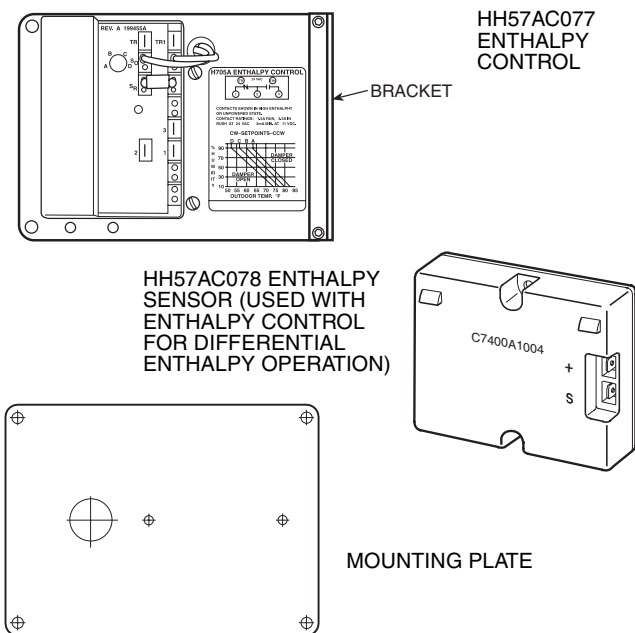

Fig. 22 — Differential Enthalpy Control, Sensor and Mounting Plate (33AMKITENT006)
- b. Connect the BRN wire to the 24 vac GND terminal (TR) on enthalpy sensor and to pin 4 on 12-pin harness.
6. Connect the RED wire to (+) spade connector on the sensor. Connect the BLK wire to (S) spade connector on the sensor. Use wire nuts or closed-end crimp-type connectors to fasten the connections securely. See Fig. 22.